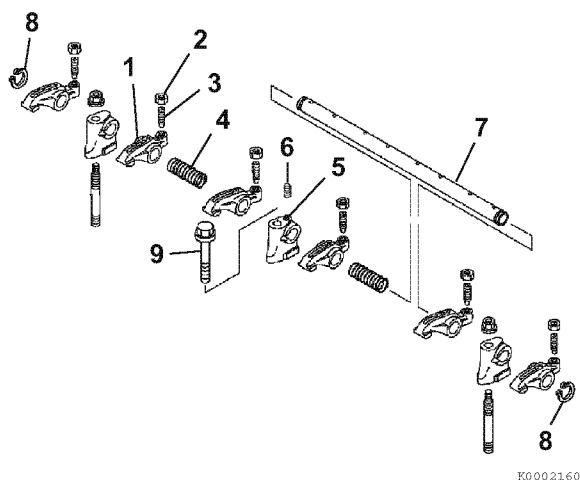

Figure 6-5
1. Remove the rocker arm shaft alignment set screw (6, **Figure 6-5**) from support (5, **Figure 6-5**).
2. Remove two circlips (8, **Figure 6-5**).
3. Slide the rocker arm shaft (7, **Figure 6-5**) out of the rocker arm supports (5, **Figure 6-5**), springs (4, **Figure 6-5**), and rocker arms (1, **Figure 6-5**).
4. Remove the valve adjusting screw (3, **Figure 6-5**) and lock nut (2, **Figure 6-5**) from the rocker arms. Mark parts so they can be reinstalled on the same rocker arm.